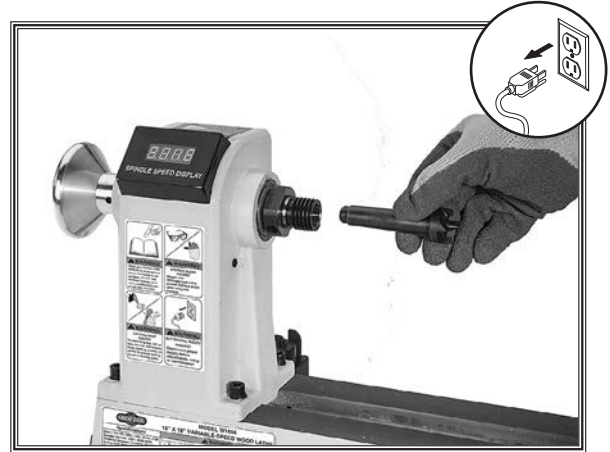

Figure 15. Example of installing center in headstock spindle.
3. Insert tapered end of center into spindle, and push it in with a quick, firm motion, as shown in **Figure 15**.